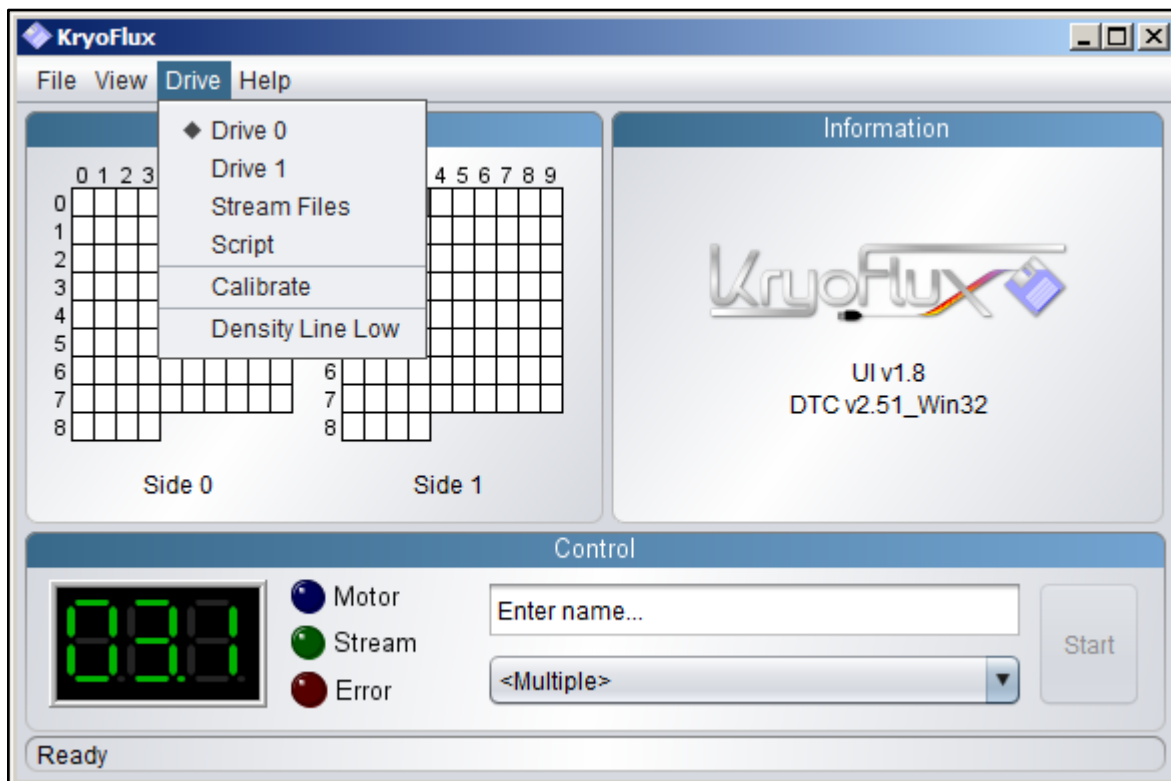

Figure 9: Select the correct drive from the Drive menu, then select Calibrate.
2. At the beginning of each imaging session calibrate the floppy drive by selecting the correct drive from the *Drive* menu then selecting *Calibrate* from the same menu (see figure 9). You should only need to calibrate the drive once per imaging session and any time you switch between 3.5-inch and 5.25-inch disk drives.